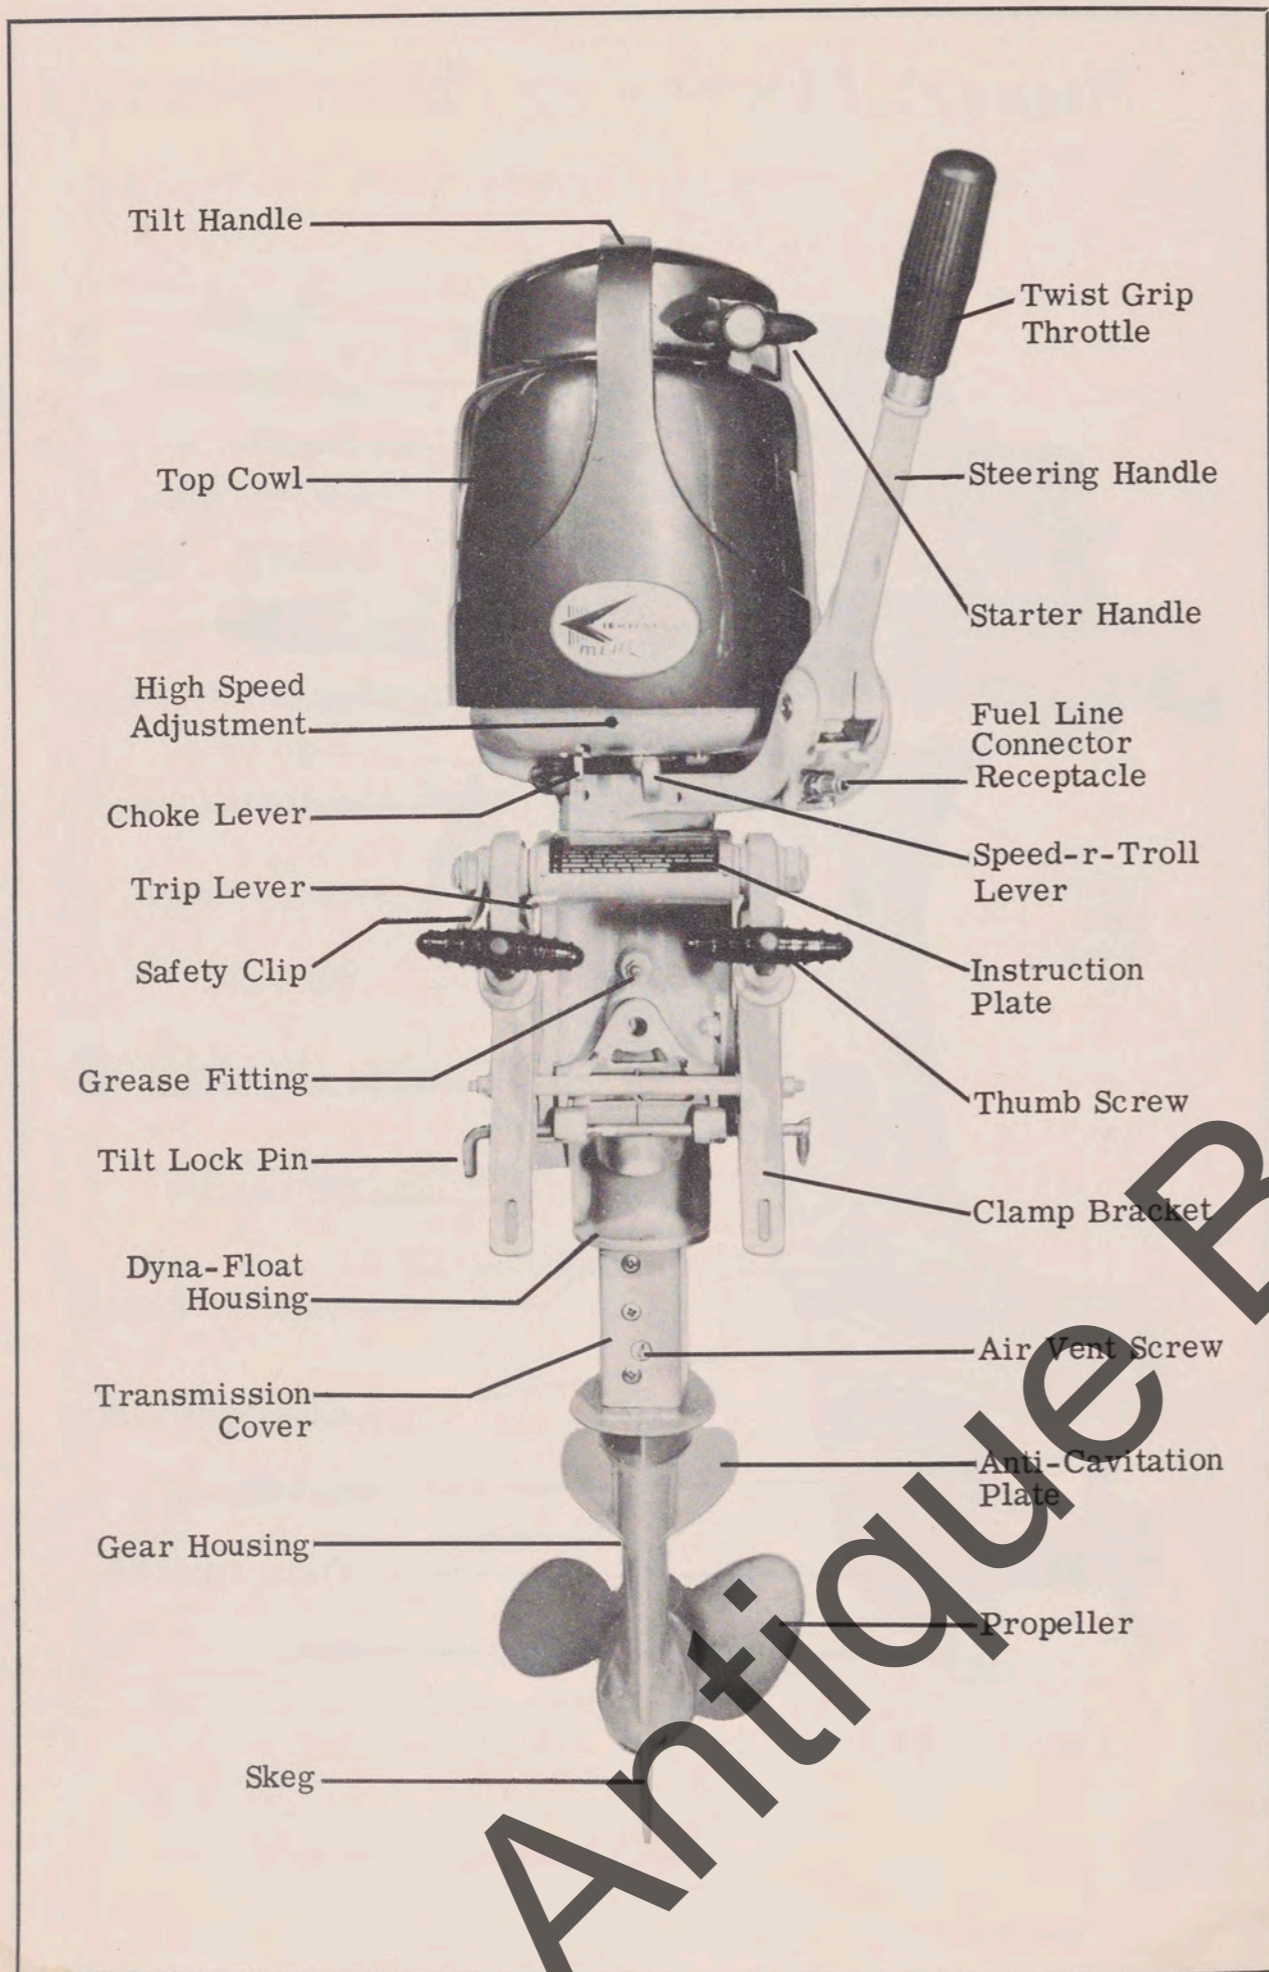

Figure 2
6. If motor is cold, set choke in closed position (move choke lever away from twist grip throttle). (See Figures 2 and 12.) Avoid use of choke if motor is warm.